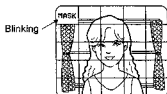

Fig. 63
- To mask this area, press the Set Switch (11). The word "MASK" appears in this area as shown in Fig. 63.